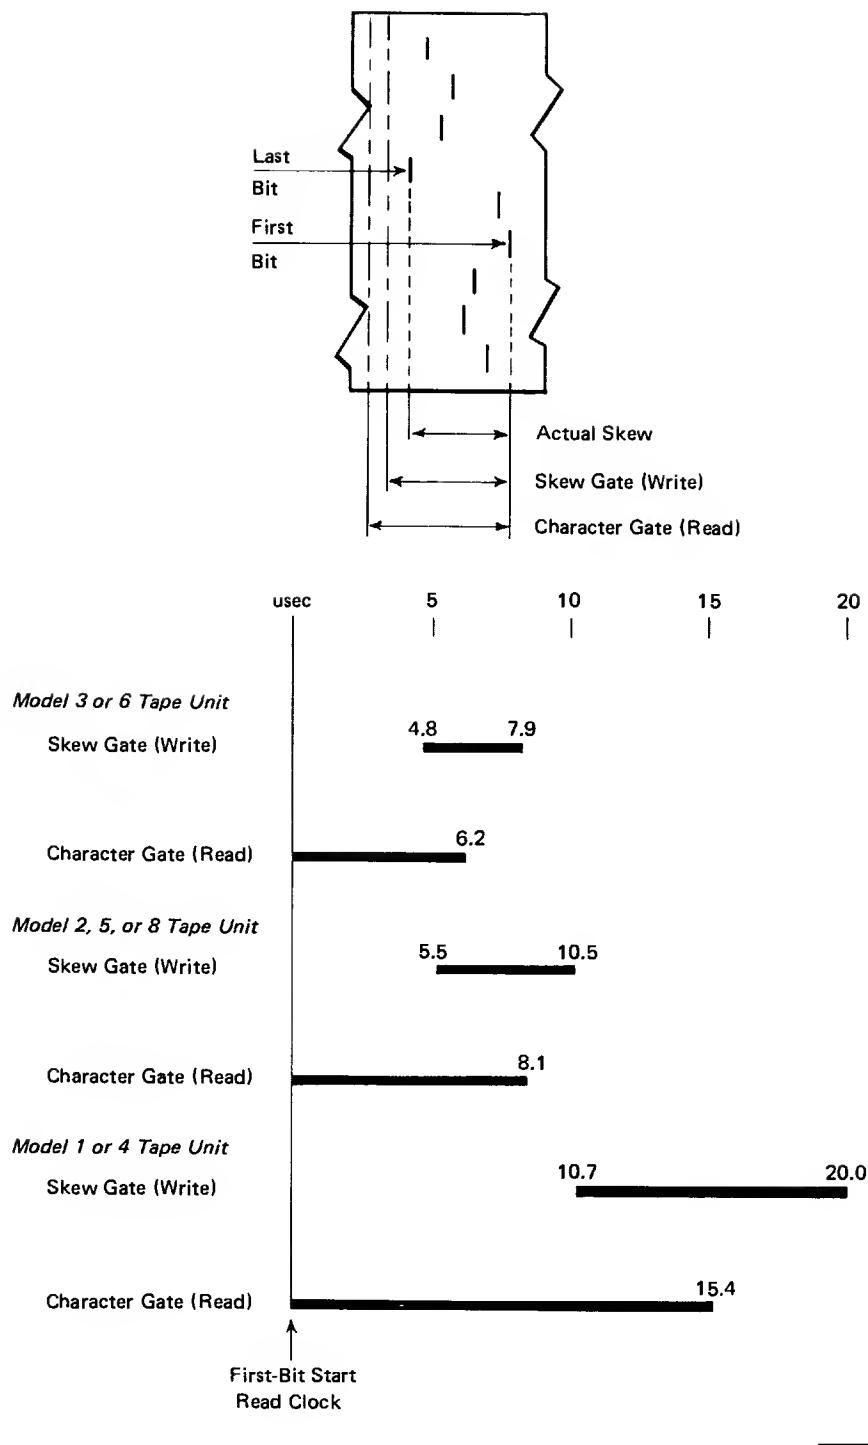

Figure 32. Skew Gate and Character Gate Timing – NRZI
### Skew Alignment Procedure (Figure 32):
This requirement can usually be met by applying the following rules to the control unit timings (Figure 32) for the 2400-series tape units:
*Skew Alignment Procedure (Figure 32):* As described under "Recording Formats for Nine-Track, 800-bpi Tape." For the 2401 Model 8 tape unit, use the data given for Model 2 or 5 tape unit.